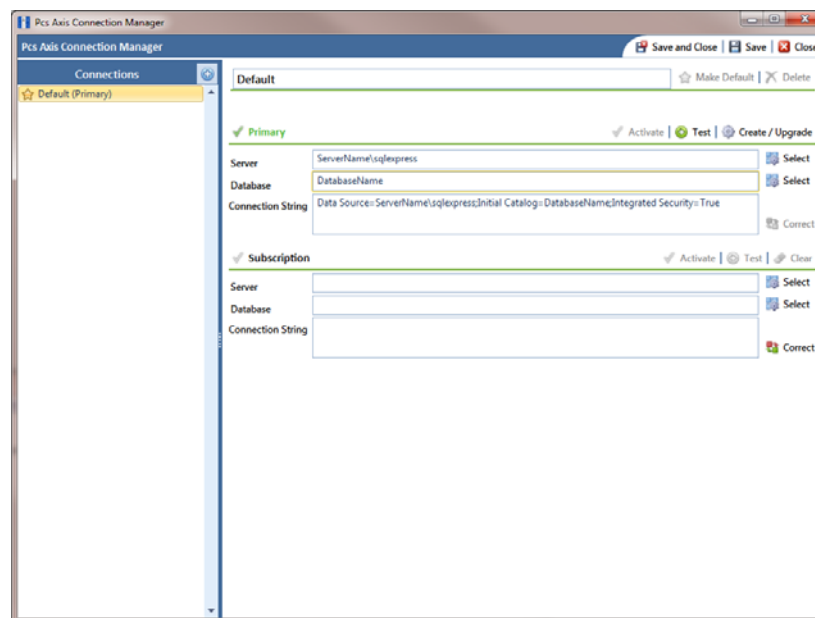

Figure 11-4. PCS Axis Connection Manager
- a Click the Windows **Start** button  and navigate to the program folder labeled *PCS Axis 1.8*. Select **PCS Axis Connection Manager 1.8** to start the program (Figure 11-4, page 533).